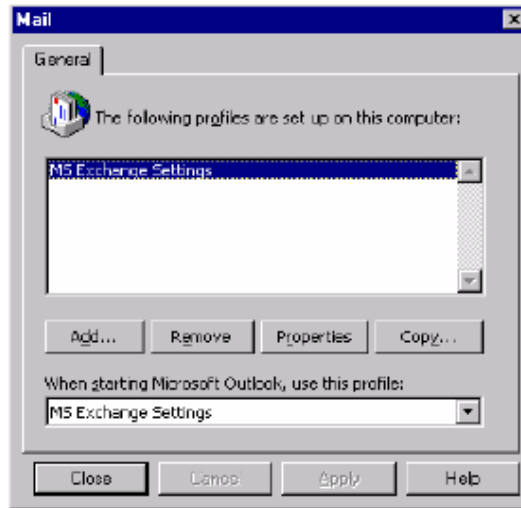

Figure 6-15. Dialog Showing Default Profile
5. Click on the **Properties** button in this screen. A screen similar to the one shown in Figure 6-15 appears.